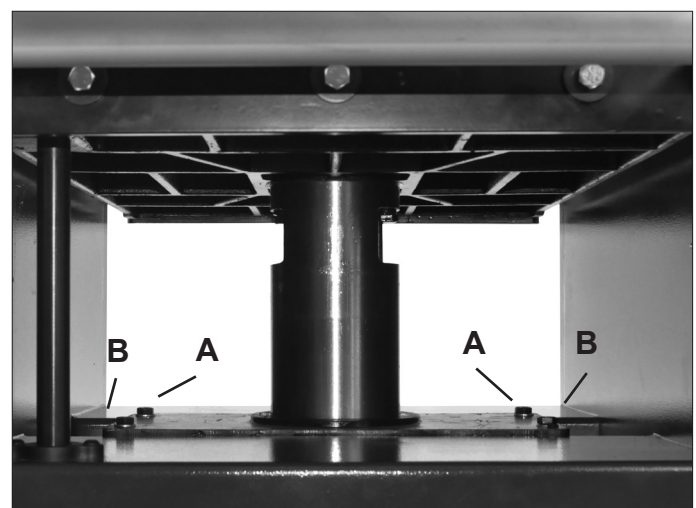

FIG. 19
7. The planer table assembly is attached to the cabinet by four Hex Bolts (#104A, FIG. 19, A). Next to these bolts are four Hex Socket Screws (#104, B) that can be adjusted to raise an end of the planer table so that it will be parallel with the cutterhead.